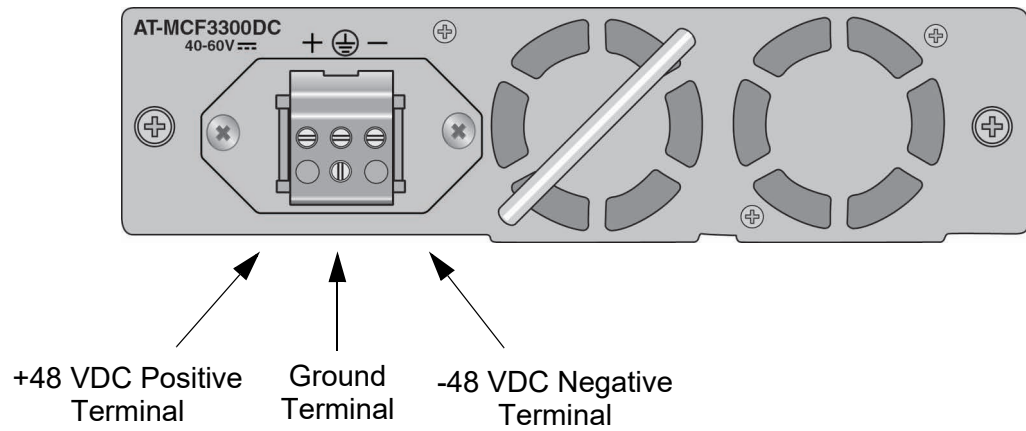

Figure 59. DC Terminal Block
2. Use the legend above the terminal block to identify the terminals. The terminals are **positive**, **power supply ground** and **negative**, from left to right, as shown in Figure 59.